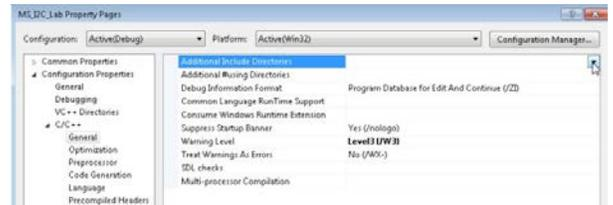
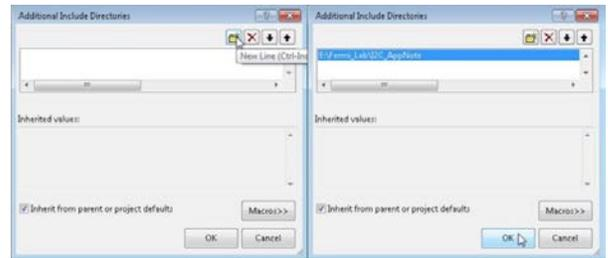

Figure 23. Search for Sample Codes
Figure 24. Select Folder with Visual Studio Sample Code
5. Select the folder that contains the sample codes under C/C++. Click **Additional Include Directories**. Refer to Figure 23 and Figure 24.